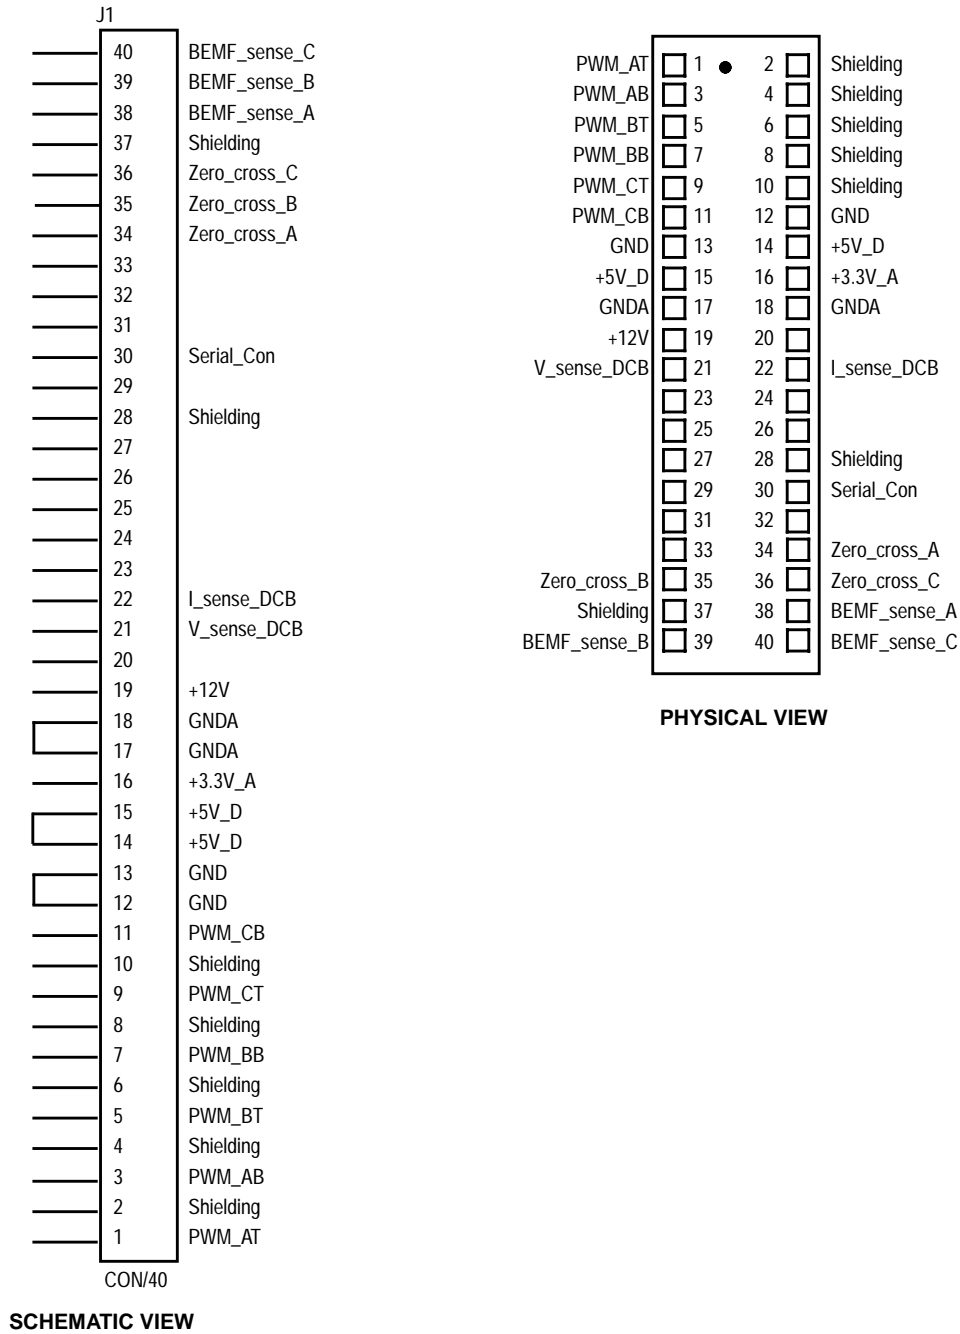

Figure 3-1. 40-Pin Input Connector J1
- Pin assignments are shown in Figure 3-1. 40-Pin Input Connector J1, and a pin-by-pin description is contained in 3.3 Signal Descriptions.
Input connections are made via 40-pin ribbon cable connector J1. Pin assignments for the input connector are shown in **Figure 3-1. 40-Pin Input Connector J1**. Power connections to the motor are made on output connector J2. Phase A, phase B, and phase C are labeled on the board. Power requirements are met with a single external 12-Vdc, 4-amp power supply. Two connectors, labeled J3 and J4, are provided for the 12-volt power supply. J3 and J4 are
Pin descriptions for each of these connectors and the test points are identified in the following information. Pin assignments for the input and output connectors are shown in **Figure 3-1**. Signal descriptions are provided in **Table 3-1** through **Table 3-5**.
Signal inputs are grouped together on 40-pin ribbon cable connector J1, located on the right side of the board. Pin assignments are shown in Figure 3-1. Pin descriptions are listed in Table 3-1.